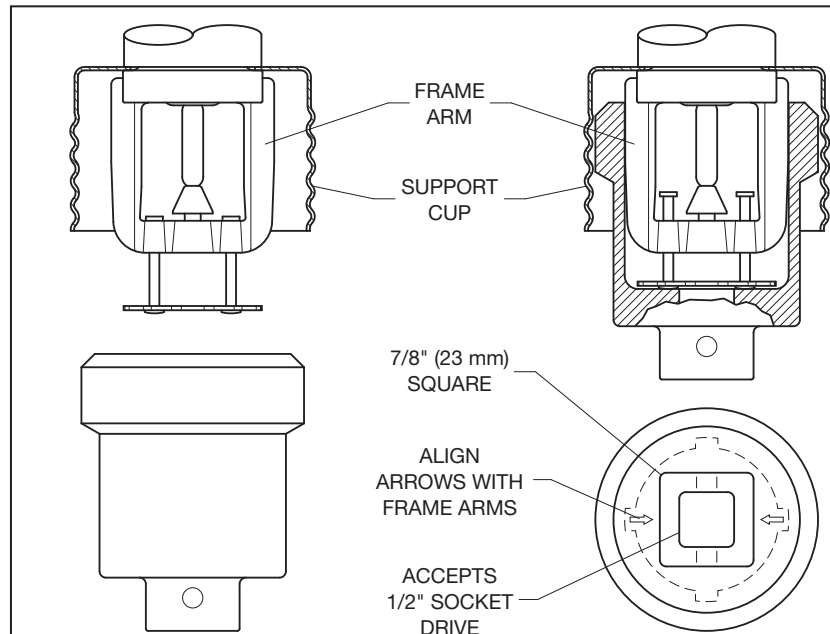

FIGURE 4
- the RFII Sprinkler Wrench on the wrench flat (Figure 4).
When using the RFII Sprinkler Wrench, temporarily remove the Protective Cap. Replace the Protective Cap (Figure 4) by pushing it upwards until it bottoms out against the Support Cup. The Protective Cap helps prevent damage to the Deflector and Arms during ceiling installation and/or during application of the finish coating of the